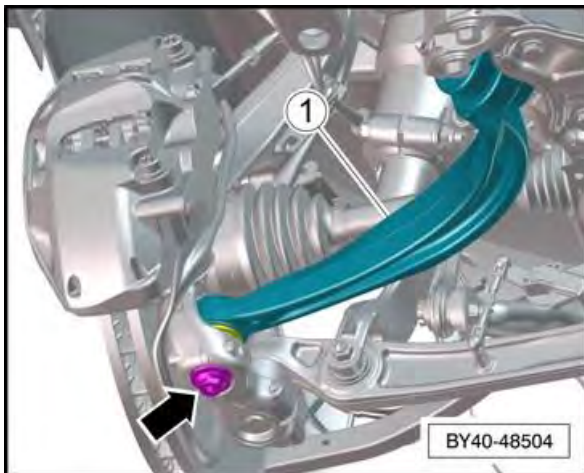

Figure 1
Figure 1 details the left hand front suspension, rearmost lower suspension lever (1)